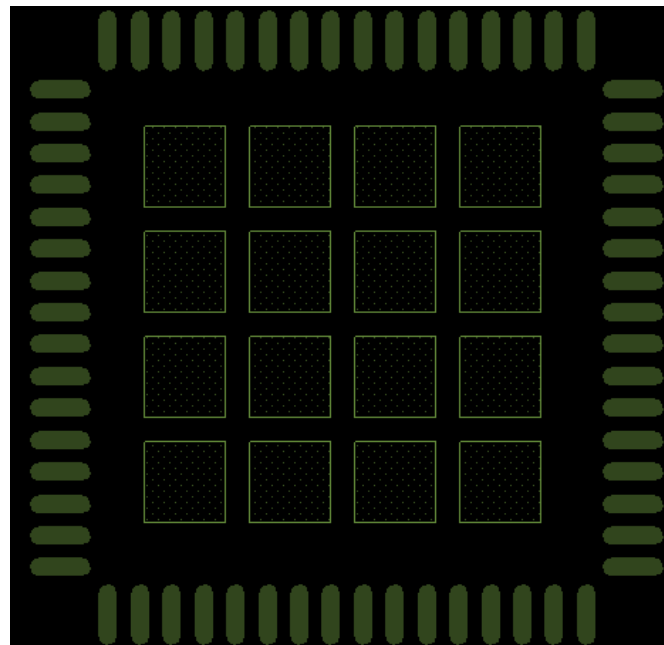

Figure 12. Split Solder Paste Into Smaller Blocks
3. Split solder paste into smaller blocks (see Figure 12) to avoid component lifting while soldering or re-flow.